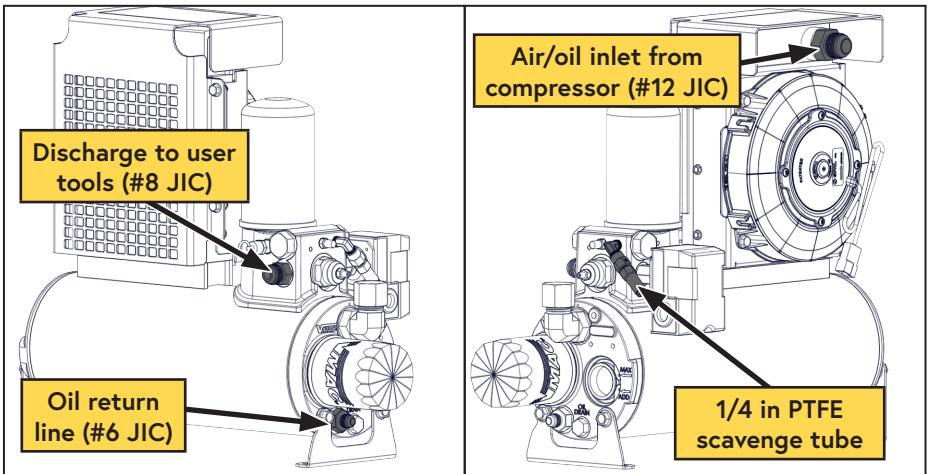

Figure 30 — WHASP Tank connections
Connecting the Interior Hoses (Figure 30)
- Connect the 1/4 in PTFE tube to the 1/4 in push-to-connect (oil scavenge) fitting near the coalescing filter (Figure 30).